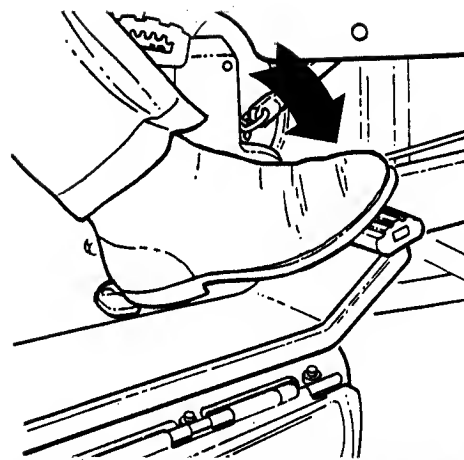

FIG. 5 - TOE DOWN FOR FORWARD MOTION
1. **FORWARD** - Slowly depress the rubber pad on the FORWARD/REVERSE CONTROL pedal with the toes of your right foot. Refer to FIG. 5.